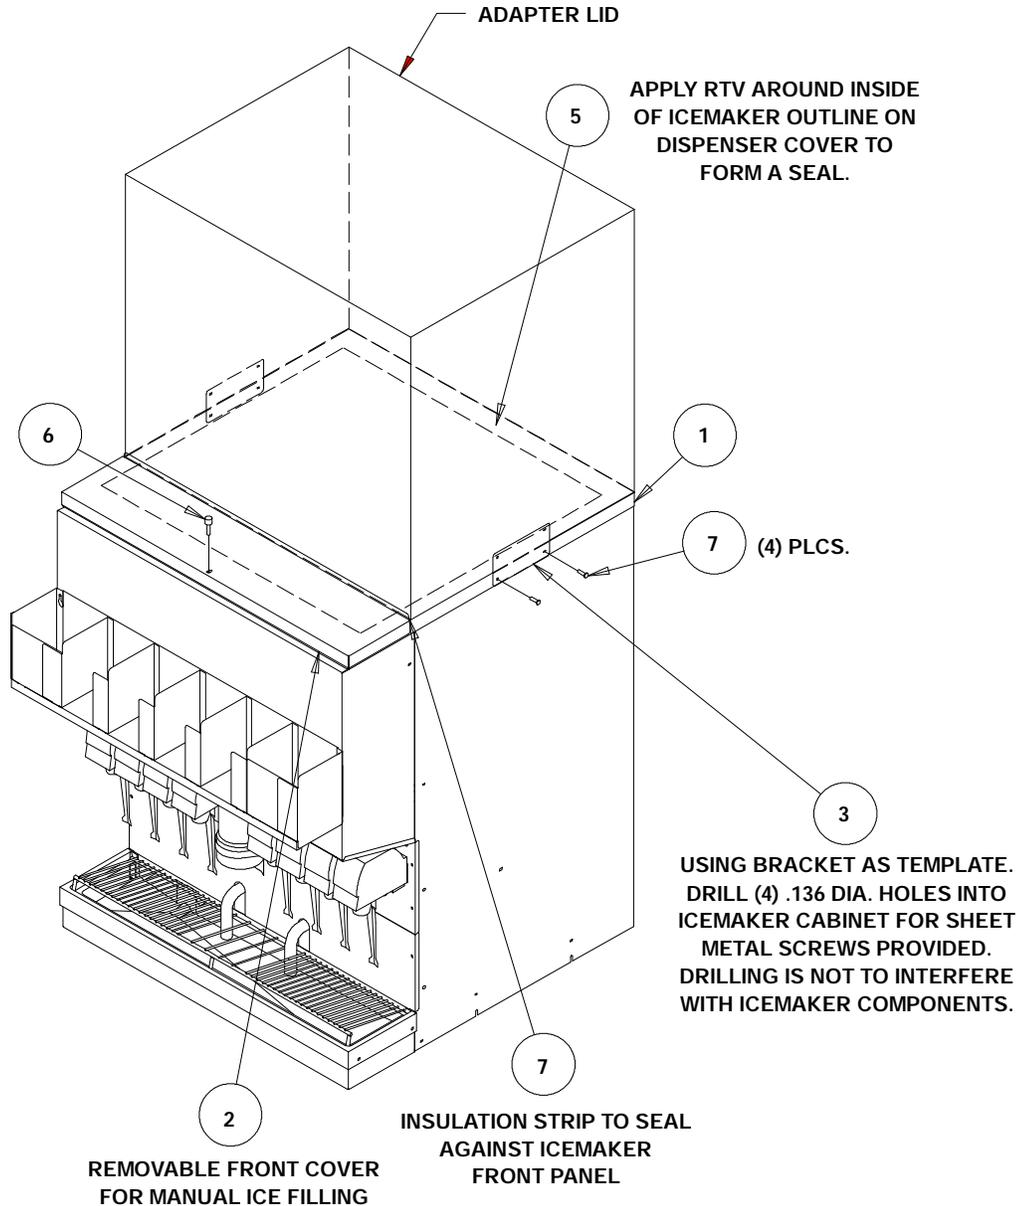

FIGURE 1. DISPENSER
2. Install the ice maker adapter lid (item 1) as shown in Figure 1. Note that some models of the DB2XX series have the adapter lid mounting screws (4 #8-32) installed in the cabinet from the factory. If so equipped, remove prior to installing the lid.
3. Seal the ice maker to the dispenser adapter lid as follows (refer to Figure 1):
4. Secure the ice maker to the dispenser with the brackets (2) provided. Drill .136 diameter holes and install the #10 sheet metal screws into the ice maker cabinet and dispenser lid and cabinet (if required). Screws must not interfere with the ice maker components.